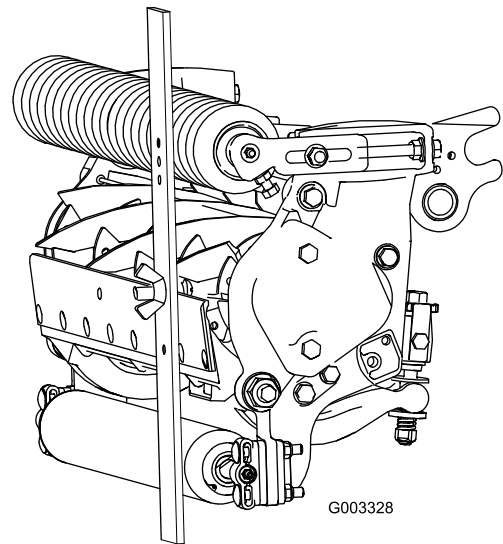

Figure 21
4. Hook the screw head on the cutting edge of the bedknife and rest the rear end of the bar on the rear roller (Figure 21).
5. Rotate the adjusting screw until the front roller contacts the gauge bar (Figure 21). Adjust both ends of the roller until the entire roller is parallel to the bedknife.